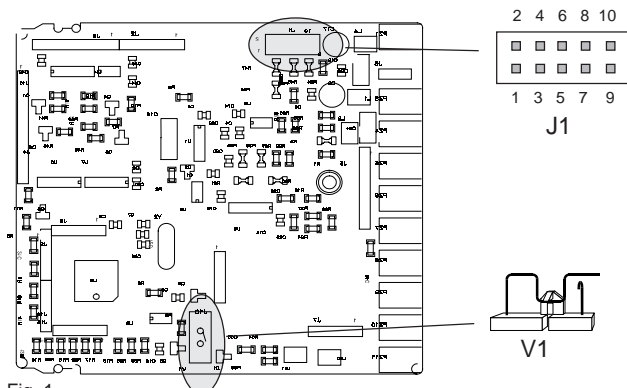

Fig. 1
- 3) Set the dip switch V1 to the open condition (see fig. 1).